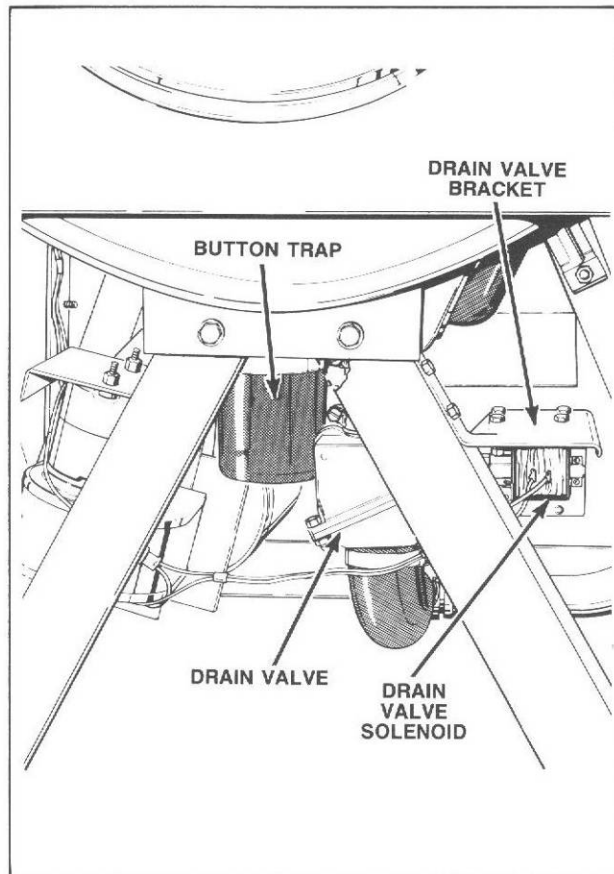

Figure 18
**17. BUTTON TRAP** (Refer to Figure 18)
(Refer to Figure 18)
**19. DRAIN VALVE SOLENOID** (Refer to Figure 18)